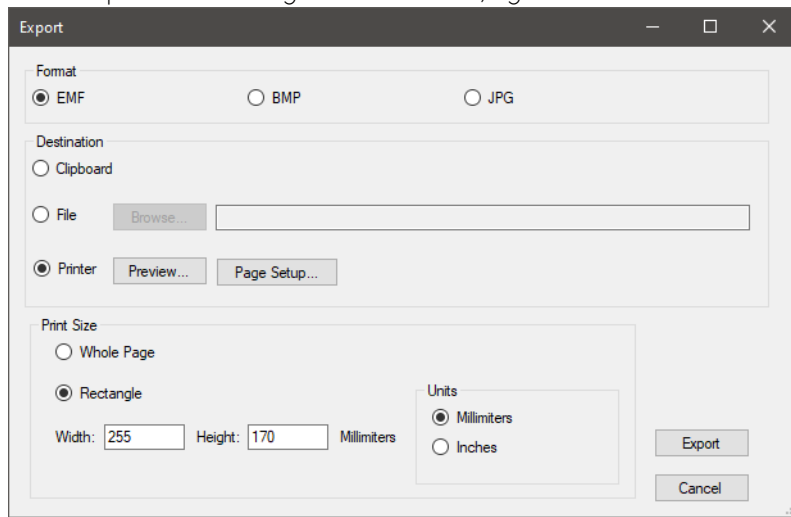

Figure 3-15: Export Dialog Box
- To export the sensorgram view shown, right-click the Combined Data Preview and select Export (Figure 3-15).